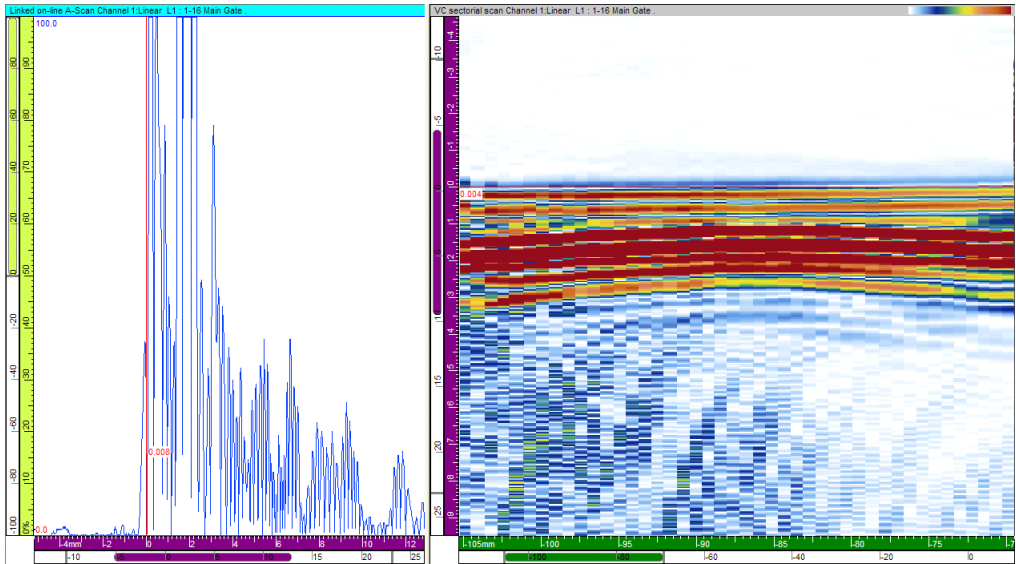

Figure 7-77 Example of the interface echo for a correctly calibrated wedge
A interface echo of correctly calibrated wedge will appear exactly at 0 mm depth anywhere along the probe, as shown in the example of Figure 7-77 on page 419. If this is the case for your application, you do not need to continue this procedure.
6. Repeat steps 2 to 5 until the interface echo line is exactly at 0 mm depth anywhere along the probe as shown in the example of Figure 7-77 on page 419.